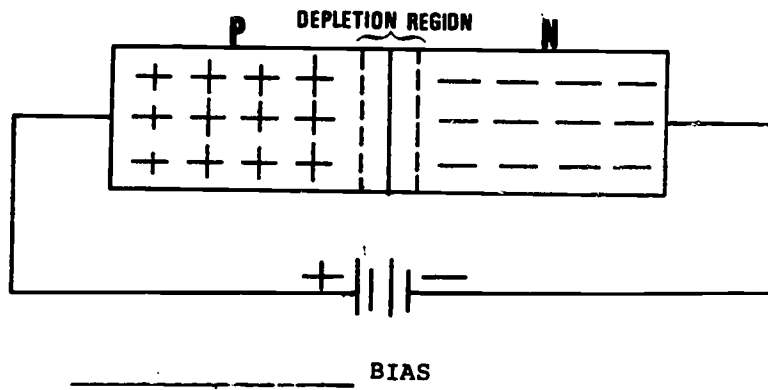

Figure 6
3. Indicate how the devices in Figures 6 and 7 are biased by filling in the blanks below. Draw lines to indicate current flow.